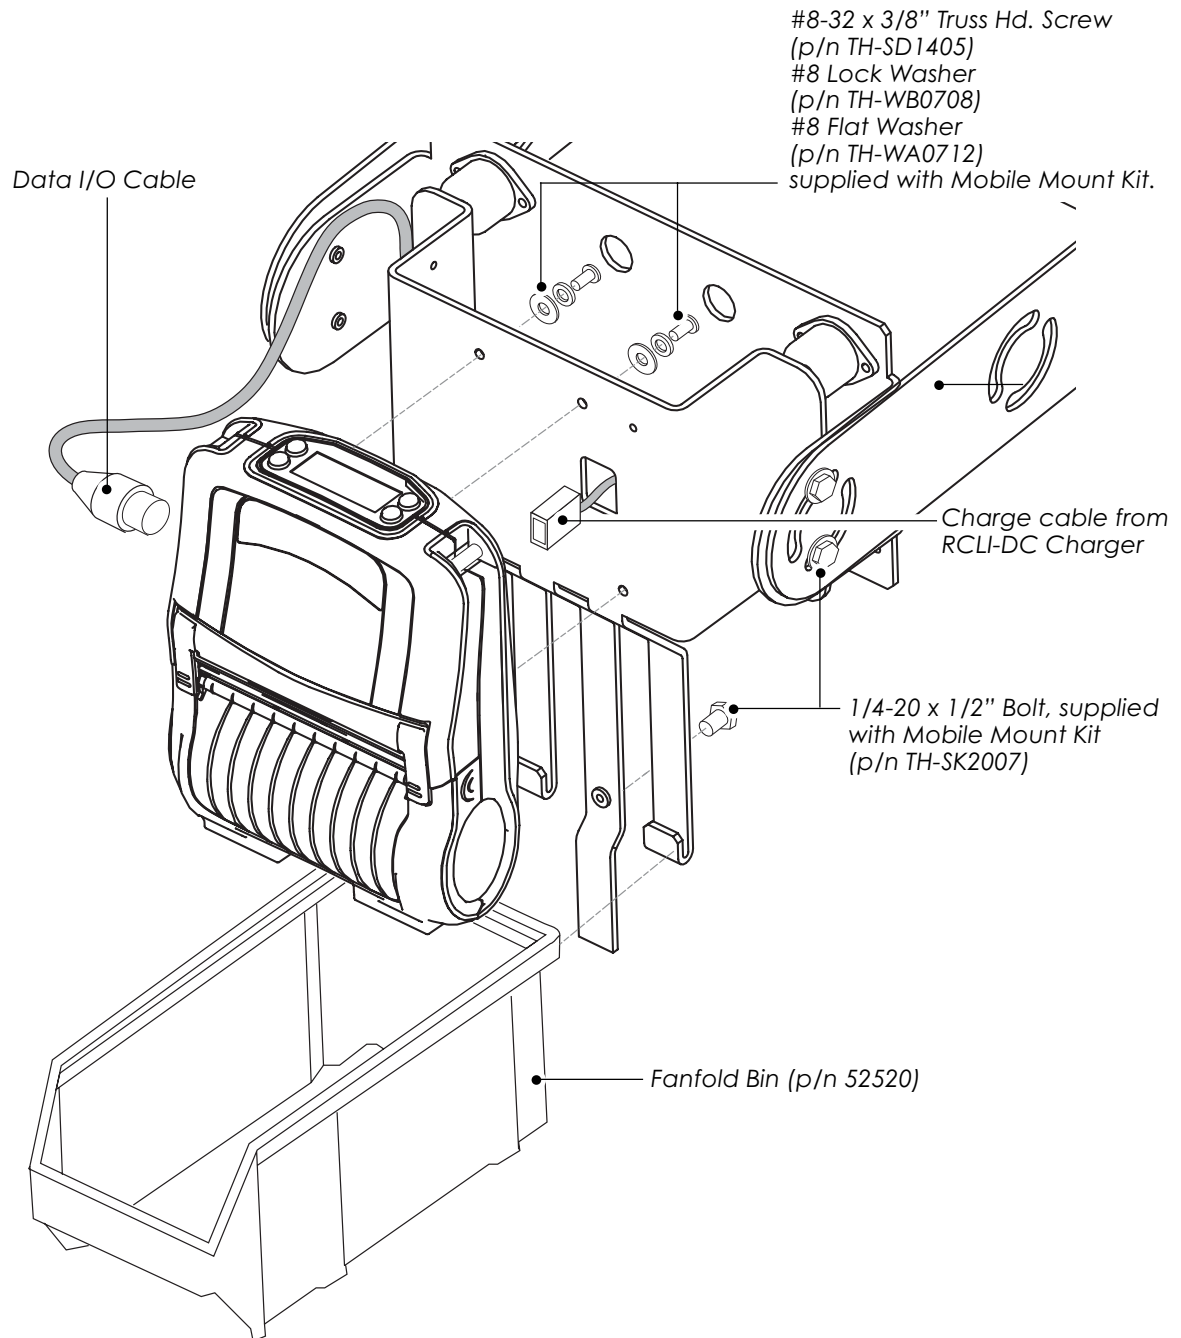

Figure 5:
The QL 420 Printer can now be installed in the Mobile Mount. Secure the printer to the Mobile Mount Bracket with (4) #8-32 x 3/8" Screws, Lock Washers and Flat Washers. (See Figure 5). Plug the output voltage cable from the Mobile Charger into the bottom of QL 420 Printer. (Note: In some installations it may be easier to plug the charger cable into the printer prior to securing the Printer to the Mobile Mount.) If desired, you can use one of the supplied cable clamps and a #6-32 x 1/4" screw to hold the cable in position.